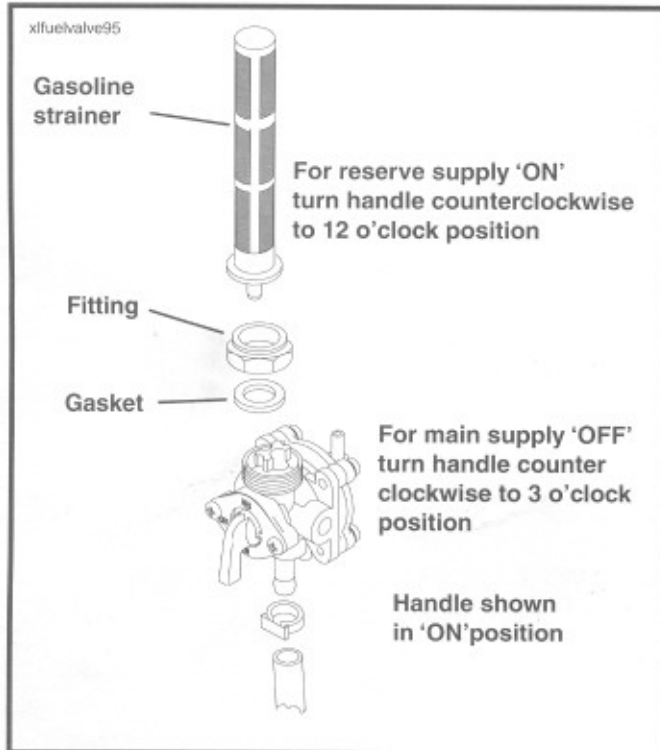

Figure 4-9. Fuel Supply Valve
GENERAL (Figure 4-9)
REMOVAL (Figure 4-9)
CLEANING, INSPECTION, AND REPAIR (Figure 4-9)
INSTALLATION (Figure 4-9)
1. See Figure 4-9. Turn fuel supply valve to OFF.
5. See Figure 4-9. If the fuel supply valve requires cleaning or repair, turn the valve fitting counter-clockwise to remove it from the fuel tank.